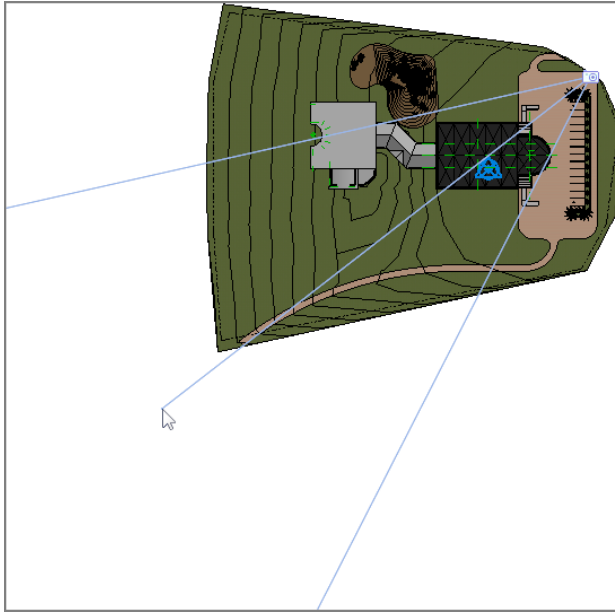

FIGURE 19.8: Create a new camera view.
2. Create a camera, as shown in Figure 19.8.